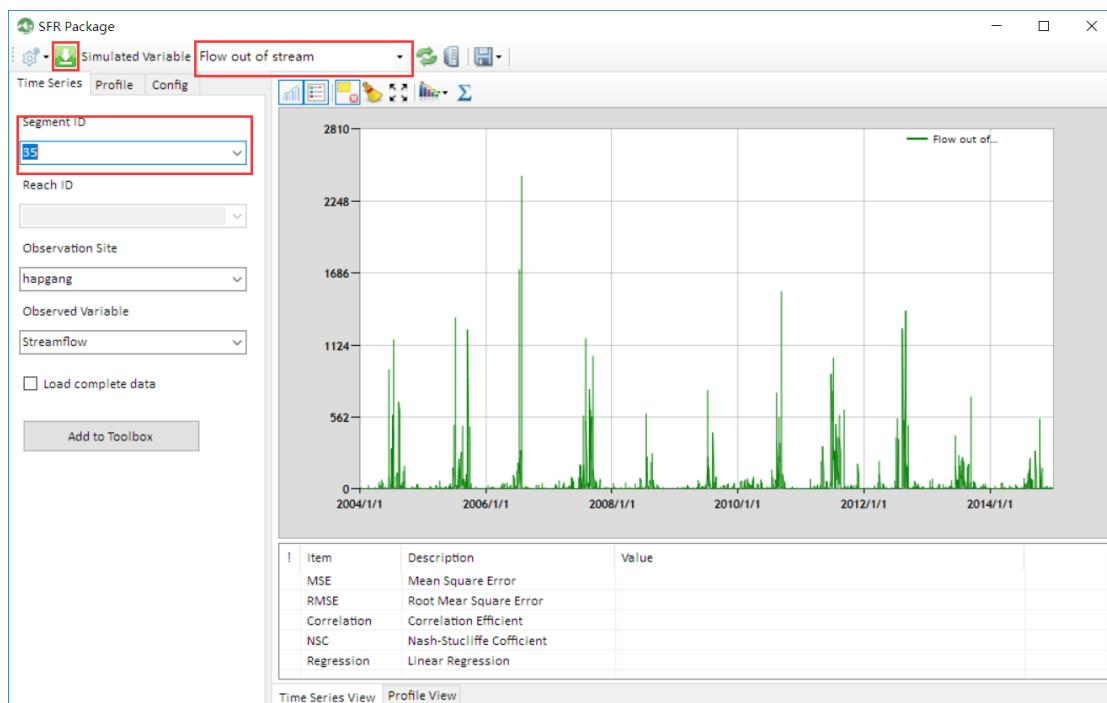

Figure 8-2. Simulated daily streamflow at the outlet of the Miho catchment.
- 3) Select “Flow out of stream” in the Simulate Variables combobox. Select “35” from the combobox below the Segment ID. Then daily streamflow simulated at the outlet of Miho catchment is shown using line curve (Figure 8-2).